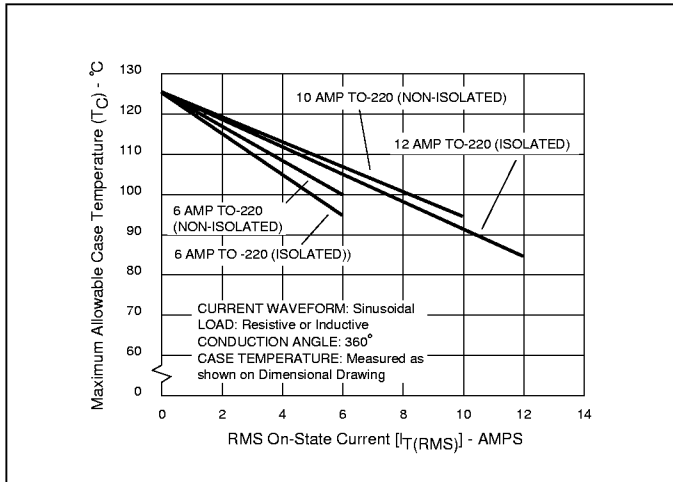
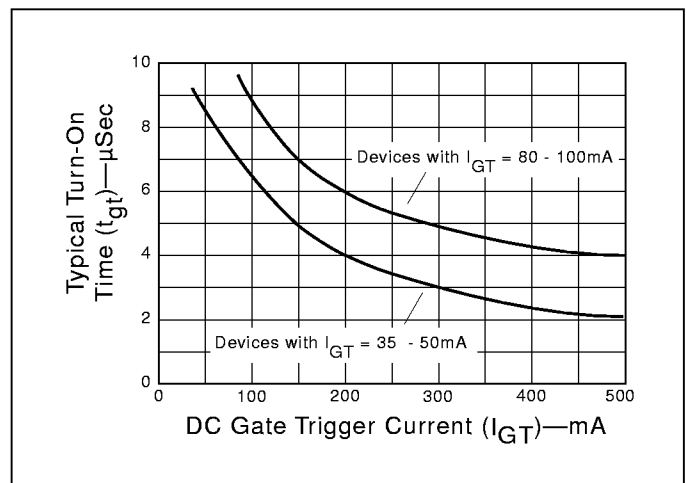

Figure 4.1 Maximum Allowable Case Temperature vs On-State Current (6-12 Amp Devices)
Figure 4.12 Turn-On Time vs Gate Trigger Current (Typical)
- (1) For either polarity of MT2 with reference to MT1 terminal.
- (2) For either polarity of gate voltage (V_{GT}) with reference to MT1 terminal.
- (3) See Definition of Quadrants.
- (4) See Figures 4.1 through 4.4 for current rating at specific operating temperature.
- (10) See Figure 4.12 for t_{gt} vs I_{GT} .
- (11) See package outlines for lead form configurations. When ordering special lead forming, add type number as suffix to part number.
- (12) Initial on-state current = 400 mA(DC) for 15-40A devices and 100mA for 6-12 Amp devices.
- (13) See Figures 4.1 through 4.4 for maximum allowable case temperature at maximum rated current.
- (14) Pulse width $\leq 10\mu s$.
- (15) For 6-12 Amp devices, $R_L = 60\Omega$; 15 Amp and above, $R_L = 30\Omega$
- (16) 40 Amp pin terminal leads on K package can run 100°C to 125°C.
- (17) Alternistor does not turn on in Quadrant IV.
- (18) $T_C = T_J$ for test conditions in off-state
- (19) $I_{GT} = 200$ mA for 6-12 Amp devices and 500 mA for 15-40 Amp devices with gate pulse having rise time of ≤ 0.1 microsecond.